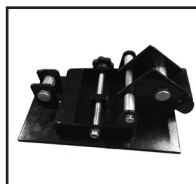

Fig. 7
1. The main support plate (1) already comes assembled (Fig 7).